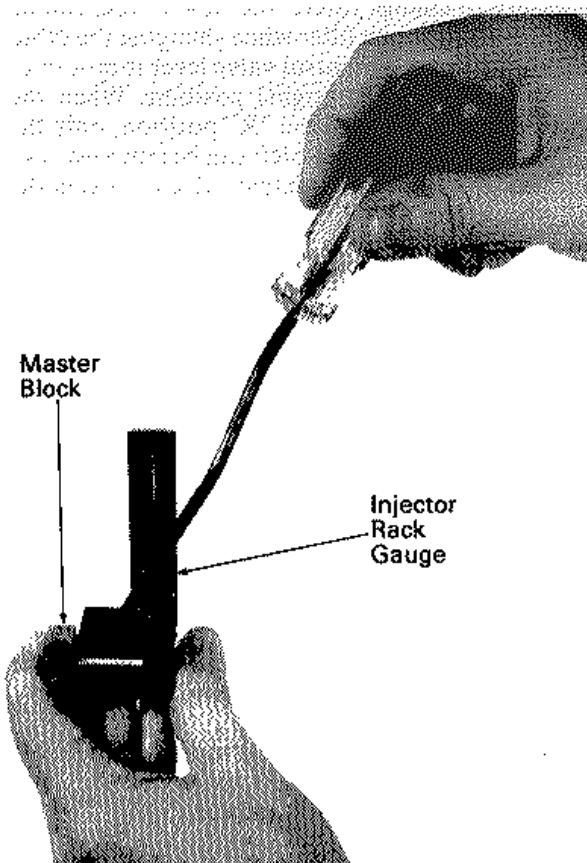

Fig. 11-13 - checking Injector Rack Gauge
5. When pointer is at the long ("L") end of scale, set pointer within the setting range. The accuracy of the injector rack gauge can be checked by inserting the master block in the gauge body, Fig. 11-13. Pointer should align with center mark on scale.